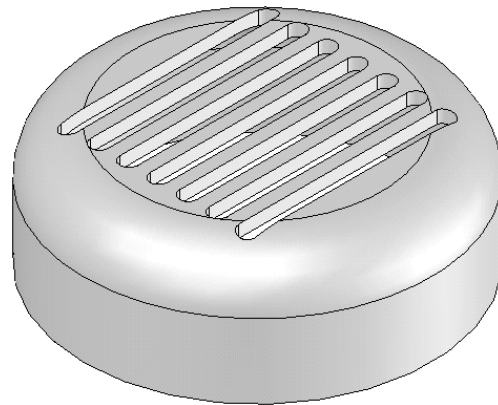

Figure 9-72 Model after patterning the cut feature
- Pattern the cut feature using the **Linear Pattern** tool, refer to Figure 9-72.
5. Now, using the **Linear Pattern** tool, create a linear pattern of the cut feature. You can select the dimension 18 as the directional reference. The model, after creating the linear pattern, is shown in Figure 9-72.